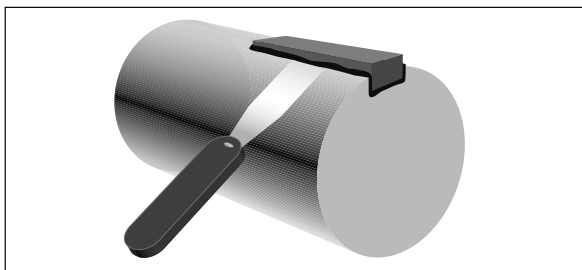

Figure 23. Immediately scrape excess epoxy away from repair area
4. **SCRAPE:** Scrape away excess epoxy from the side of the keyway. (See *Figure 23*)